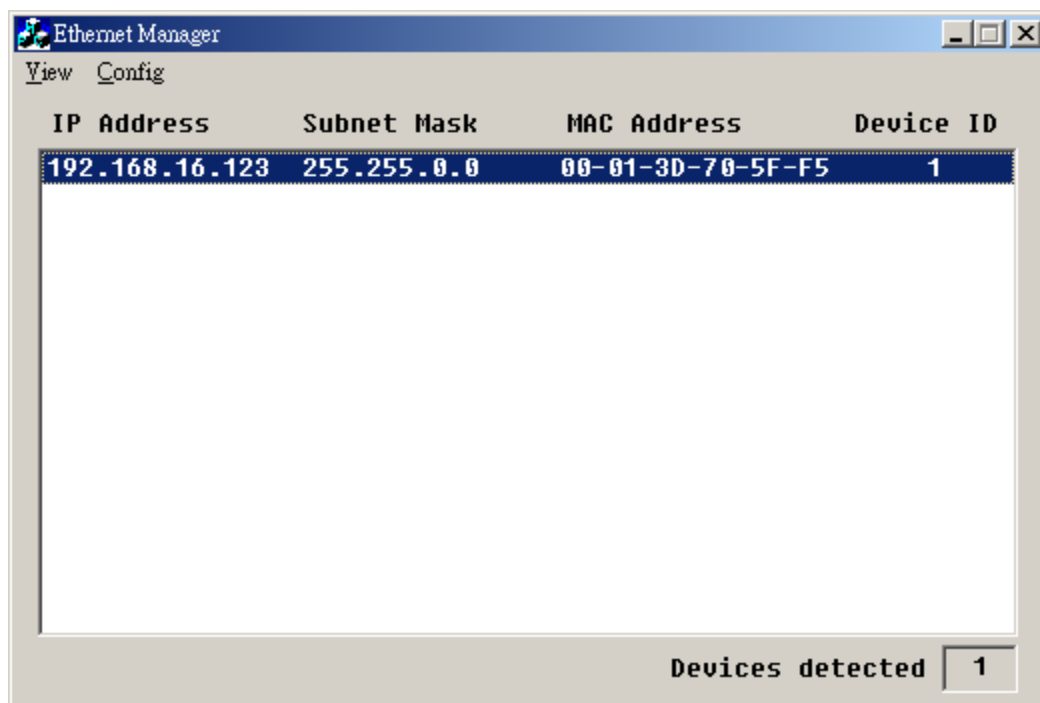

FIG D2-1
2. Run the ETM.EXE which bellows the path of the LAN on the CDROM drive, it will show as fig D2-1 if not , please press F5 to search again, or check the first step was succeed or not.